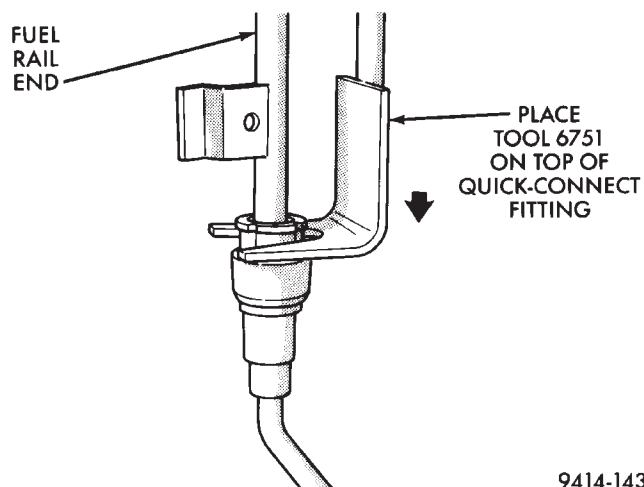

Fig. 59 Inspecting Quick-Connect Fitting Connection
(5) Pull special tool 6751 toward fuel tube nipple until quick-connect fitting clicks into place. When quick-connect fitting clicks into place, the retainer holds the fuel nipple shoulder in place and the O-rings seal the tube.
(6) Place special tool 6751 between shoulder of the disconnect tool and the top of the quick-connect body (Fig. 59).
(7) Inspect connection by pushing down on special tool 6751. **When inspecting the connection, a slight downward movement of the quick-connect fitting occurs until the retainer in the fitting contact the fuel tube nipple shoulder. Once the retainer contact the shoulder all movement should stop. If the quick-connect fitting comes off of the fuel rail, attach it according to the installation procedure. Ensure the black plastic**